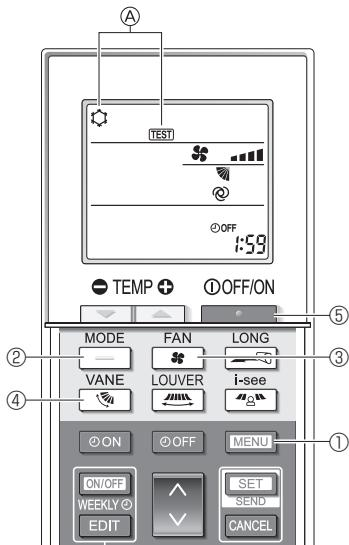

Fig. 8-5
2. Press the **[MENU]** button ① for 5 seconds. (Fig. 8-5)
Ⓐ [TEST] and the current operation mode are displayed. (Fig. 8-5)